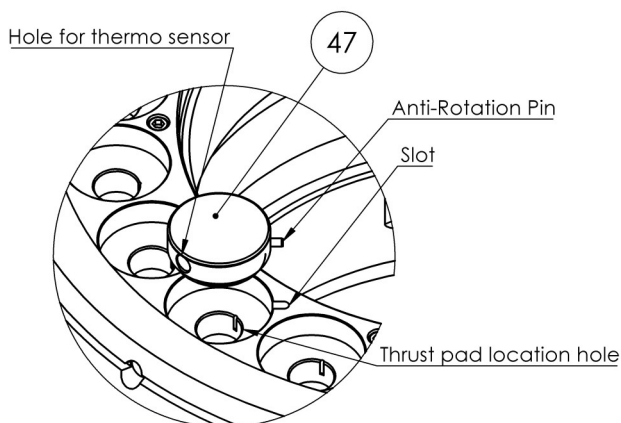

Fig. 50
- Find the thrust pad (47) with an anti-rotation pin and a hole for thermo sensor. Then locate the corresponding slot in the pad ring (45).
- Insert the thrust pads with the anti-rotation pin into the corresponding thrust pad location hole (Fig. 50).
- Check the mobility of all thrust pads. If the thrust pads grips, realign the pad ring (45).